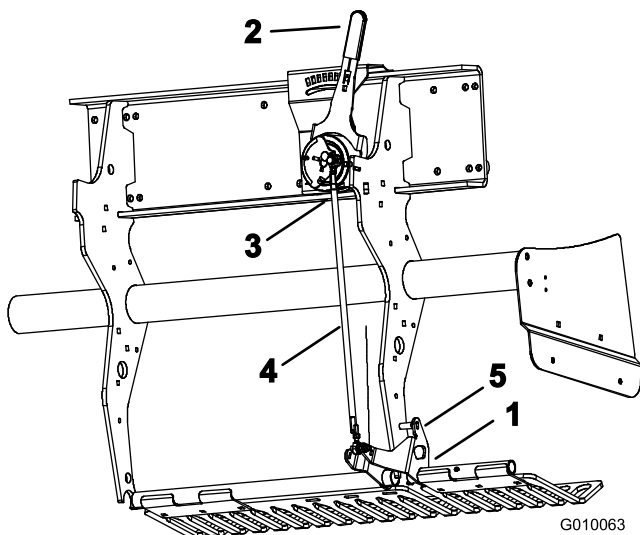

Figure 58
1. Rotate the LH turf guard mounting bracket (Figure 58) up until a locking pin (5/16 drill rod or bolt) can be inserted between the bracket and the depth setting tube welded to the frame.
2. Move the tine depth lever (Figure 58) to the H setting (deepest).
3. Disconnect the outboard ball switch (Figure 58) from the wire harness (Head-Low switch).
4. Loosen the jam nuts (LH and RH) on the depth adjustment tie rod (Figure 58).